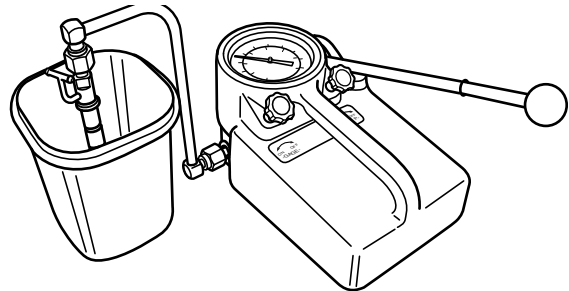

Figure 7-31
- 3. Using the correct adapter, connect a fuel injector to a nozzle tester. Aim the fuel injector into a suitable container to catch the fuel spray (**Figure 7-31**).